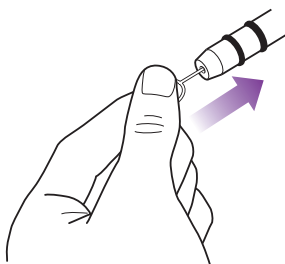

fig. 41
- 3 Use the provided nozzle cleaner or a small diameter stiff metal wire, such as a straightened metal paper clip, and carefully insert the end of the wire into the nozzle orifice. See illustration above. (fig. 41)